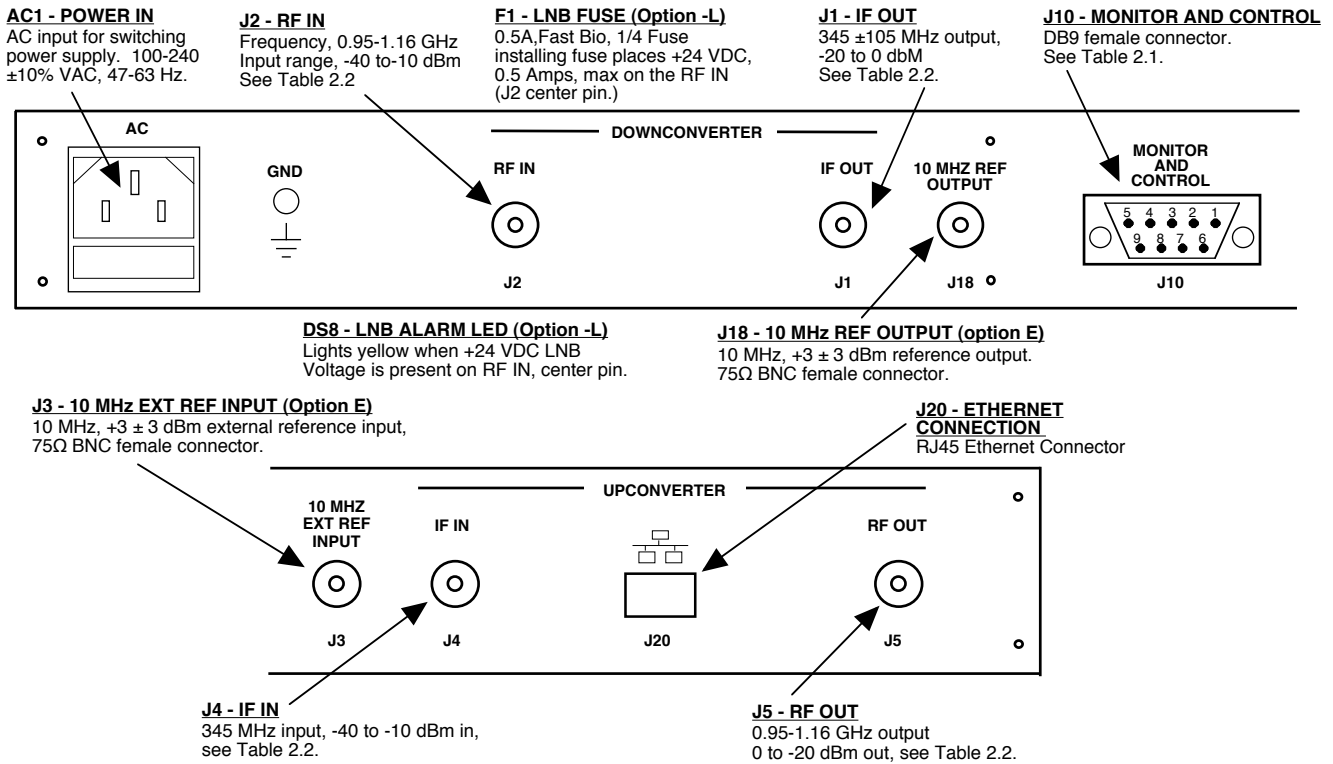

Figure 2.1 Model 2017-1111-345 Rear Panel I/O's
2.2 Rear Panel Input/Output Signals and Control - Figure 2.1 shows the input and output connectors on the rear panel.
- 1.) Connect a -40 dBm to -10 dBm, 345 MHz \pm 105 MHz signal to IF In, J4 (Figure 2.1).
- 1.) Connect a -40 dBm to -10 dBm 1055 \pm 105 MHz signal to RF In, J2 (Figure 2.1).